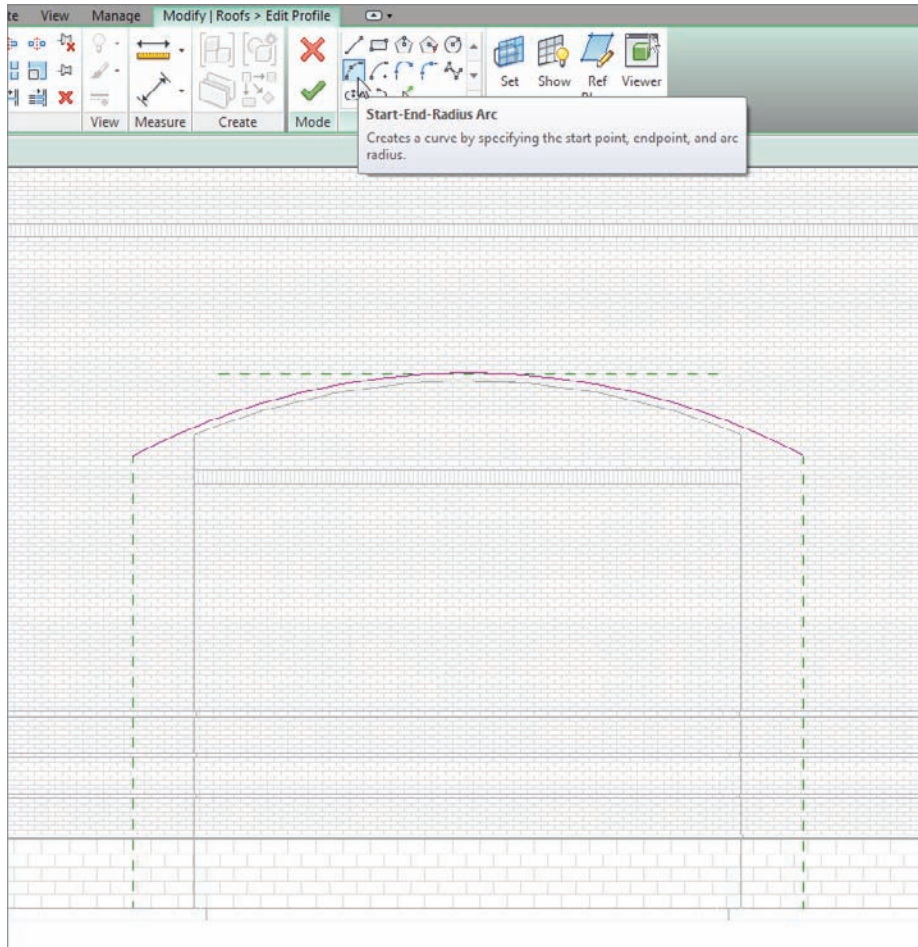

FIGURE 7.53 Drawing an arc, which will define the outside face of the roof
1. On the Draw panel of the Modify | Create Extrusion Roof Profile tab, click the Start-End-Radius Arc button, as shown in Figure 7.53.
2. Draw an arc from the points shown in Figure 7.53.